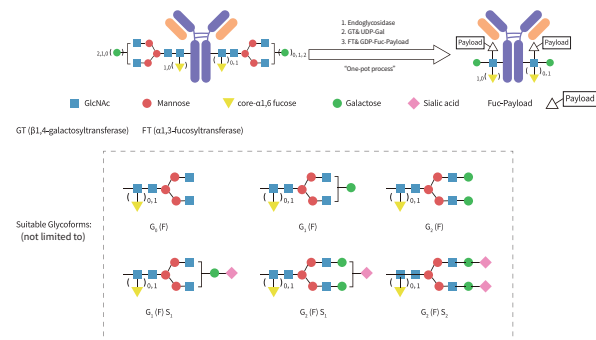

Figure 1 The principle of DAR2 ADC preparation with AGLink®
To construct the DAR2 conjugates, glycans are first removed from the core GlcNAc catalyzed by endoglycosidase. Galactose is then added to the GlcNAc catalyzed by β-1,4-galactosyltransferase (GT) to form core LacNAc. Finally, α-1,3-fucosyltransferase (FT) recognizes LacNAc and transfers the Fuc-Payload to the GlcNAc of the LacNAc to form a conjugate with a theoretical DAR of 2 (Figure 1).